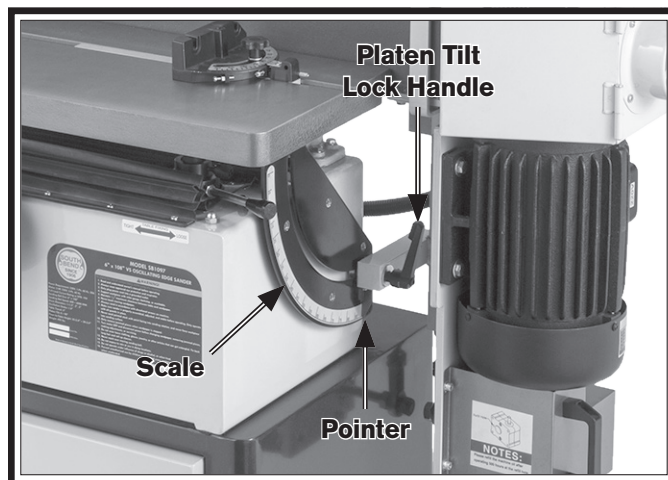

Figure 49. Platen tilt adjustment controls.
1. Loosen platen tilt lock handle (see **Figure 49**).
2. Tilt sander until pointer is aligned with desired angle on scale (see **Figure 49**).